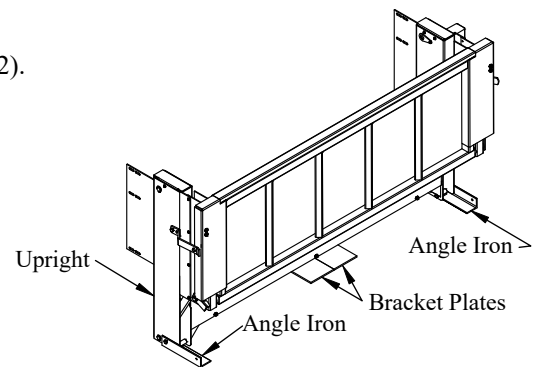

Figure 2: Complete liftgate (G² shown).
4. **Unbolt** and **Save** the two (2) angle irons attached to the liftgate uprights (Figure 2).
5. **Remove** and **Save** the two (2) bracket plates attached to the liftgate (Figure 2).